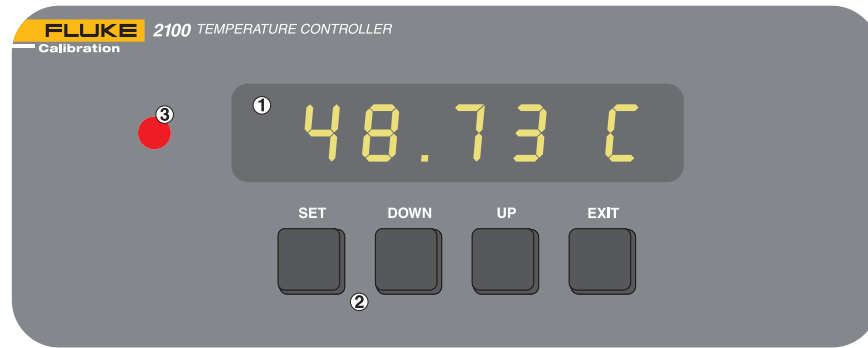

Figure 4. Front panel features
The following controls and indicators are present: (1) the digital display, (2) the control buttons, and (3) the control indicator light. (see Figure 4)
(1) The digital display is an important part of the temperature controller because it not only displays set and actual temperatures but also various controller functions, settings, and constants. The display shows temperatures in values according to the selected scale °C or °F.
(2) The control buttons (SET, DOWN, UP, and EXIT) are used to set the temperature set-point, access and set other operating parameters, and access and set calibration parameters.